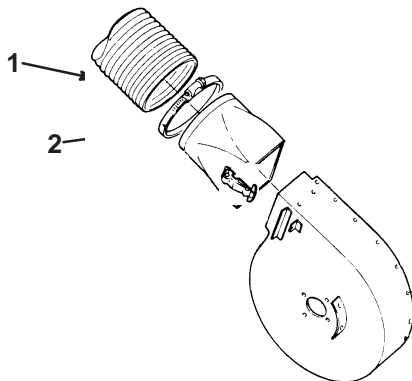

Figure 17
1. Assemble the discharge hose onto the adapter and secure with the clamp (Fig. 17).
2. Slide the adapter onto the blower assembly and secure with the latch handle (Fig. 17).